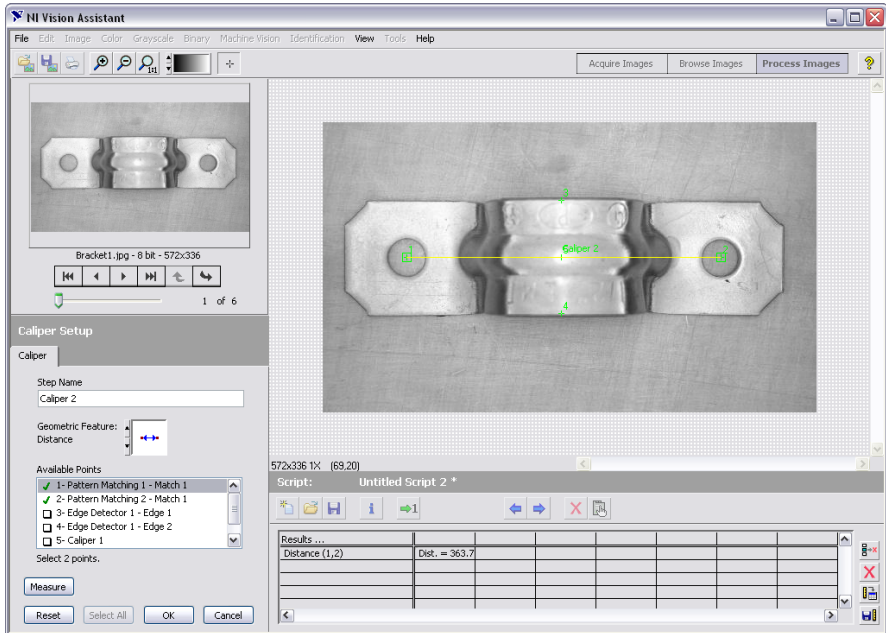

Figure 4-7. Using the Caliper Function to Find Bracket Distance
9. Click **Measure** to compute the distance between the bracket holes. The distance measurement is added to the results table, as shown in Figure 4-7.